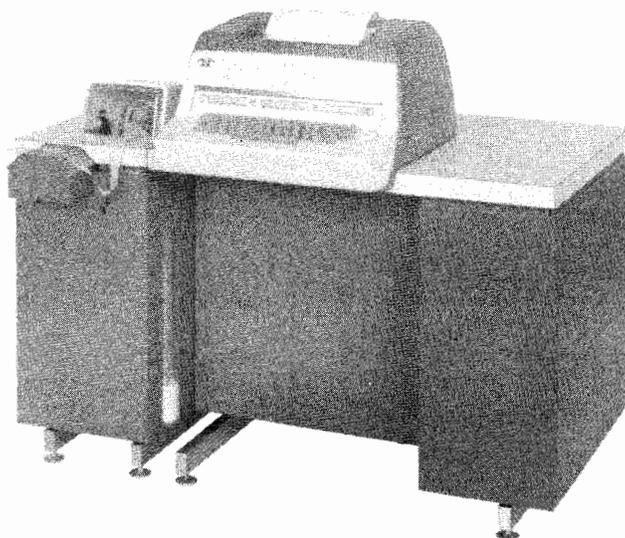

Figure 1 - 37 ASR Teletypewriter Set
1.02 The 37 ASR Set consists of a reperforator-transmitter (RT) module and a 37 keyboard send-receive unit (Figure 1). The set can be installed in a floor space 44-1/2 inches wide and 27 inches deep. Maximum height, with the printed cover and RT cabinet lids open, is 46 inches. Space for the operator must be added to the depth dimension.